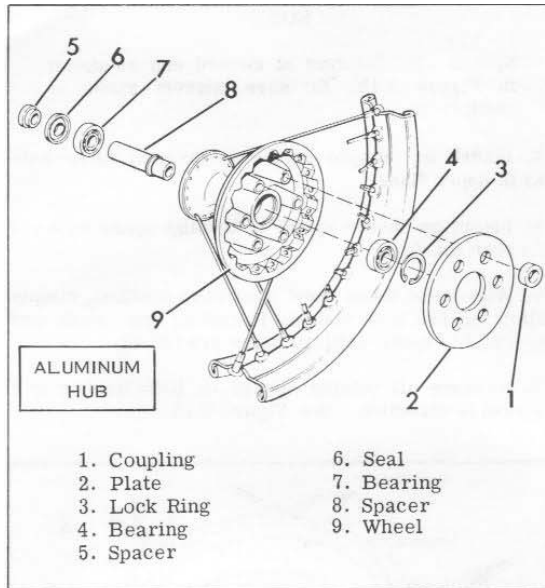

Figure 2.8. Disassembling Rear Wheel Hub - Aluminum
Remove six rubber couplings (1), Figure 2.8, from projections on wheel (9). Note that when separating rear wheel, some of these couplings may remain on hub projections and some in recesses in brake-sprocket assembly.